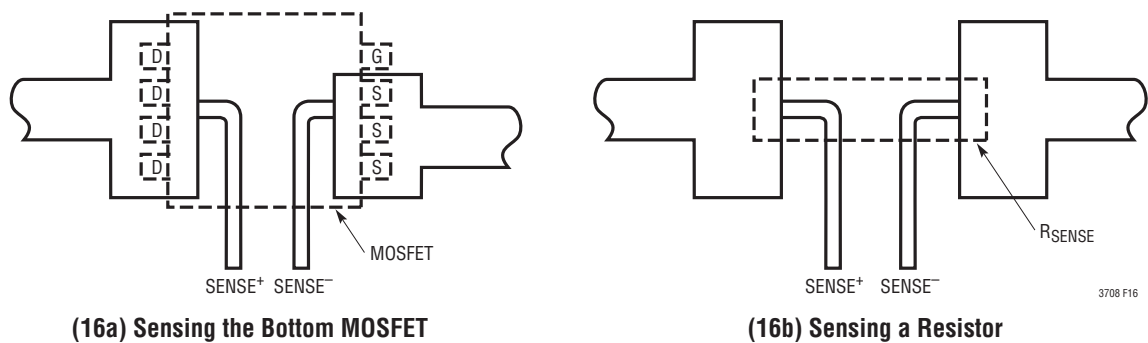

Figure 16. Kelvin Sensing
- Run  $SENSE+$  and  $SENSE-$  across the bottom MOSFET (or  $R_{SENSE}$  when a separate current sensing resistor is used) with Kelvin connection (Figure 16). Route  $SENSE+$  and  $SENSE-$  together with minimum PC trace separation. The filter capacitor (when used) between  $SENSE+$  and  $SENSE-$  should be as close to the LTC3708 as possible.